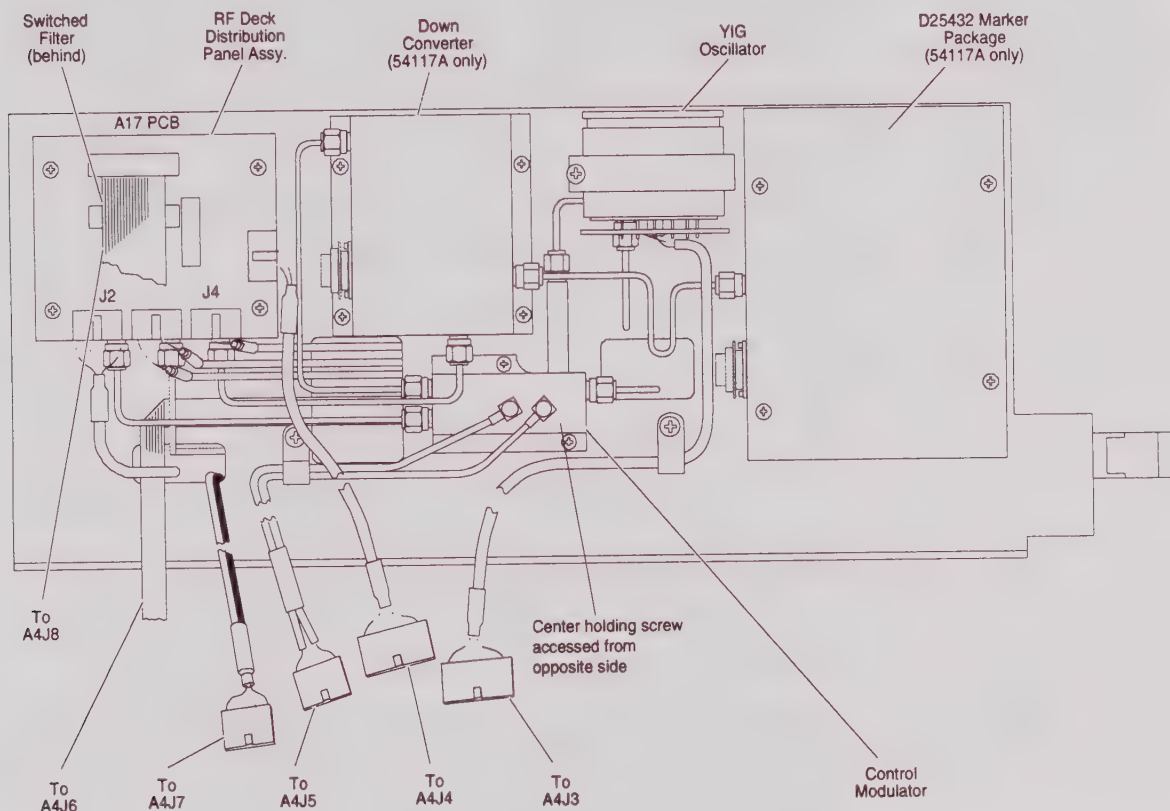

Figure 7-13. Models 54117A and 54119A RF Deck Parts Location (Internal Side Detail)
- Step 1.* Remove the marker connection from A17J4 on the RF Distribution PCB (Figure 7-13).
- Step 1.* Remove the connection from A17J2 on the RF Distribution PCB (Figure 7-13).
- Step 2.** Remove the D25432 Marker Package (See Figure 7-13 and procedure on next page).
- Step 1.** Remove one RF connectors and one control connector (Figure 7-13).
- Step 1.** Remove the marker connection from A17J4 on the RF Distribution PCB (Figure 7-13).
- Step 1.** Remove the connection from A17J2 on the RF Distribution PCB (Figure 7-13).